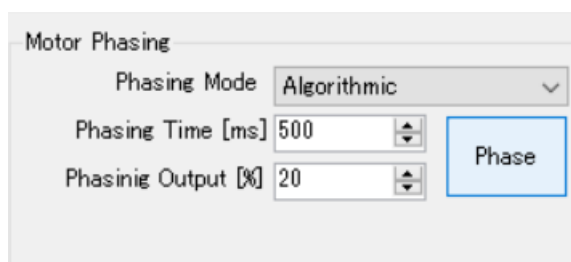

Figure 4-6 "Phase" Button
- (16) Press the "Phase" button (Figure 4-6) to adjust the motor phase.